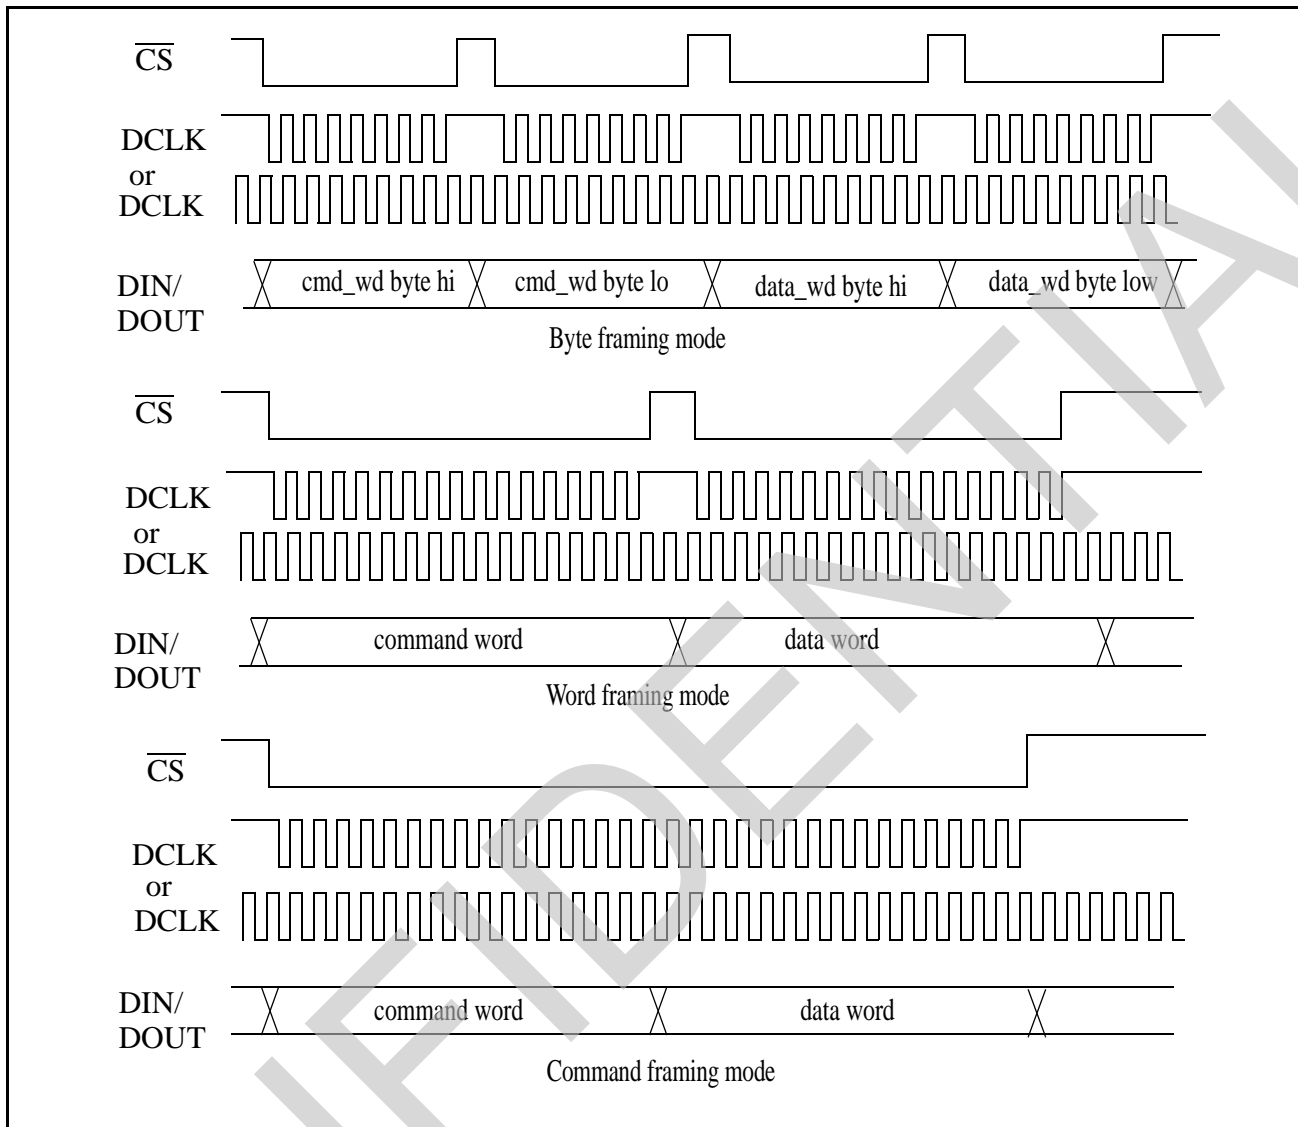

Figure 23 - \overline{CS} Framing Modes
- \overline{CS} pin supports byte/word framing, and command framing mode, as shown in Figure 23. The SPI slave state machine will reset if \overline{CS} returns to High when the number of active DCLK pulses is not equal to 8 or 16. If there is no clock, \overline{CS} has to be Low for more than 125 ns to be recognized to reset SPI slave state machine. In command framing mode, the transition of \overline{CS} to High means the command has ended. This event resets the SPI slave state machine, and the next falling edge of \overline{CS} starts a new command.
Figure 23 shows three kinds of framing modes based on the behavior of \overline{CS} . In byte/word framing mode, \overline{CS} is Low for 8/16 SCK clocks. For a two-word command, \overline{CS} needs to toggle 4/2 times to complete the command transfer. In command framing mode, \overline{CS} is Low for the whole duration of the command transfer. When the command is finished, \overline{CS} will go back to High. If \overline{CS} Low lasts shorter than the expected command length, the command is aborted and the SPI slave state machine resets. However if the user pulls \overline{CS} Low longer than the expected command length, the extra words will start a new command sequence. In both byte/word framing mode and command framing mode, DCLK can be free-running or absent when \overline{CS} is inactive High.